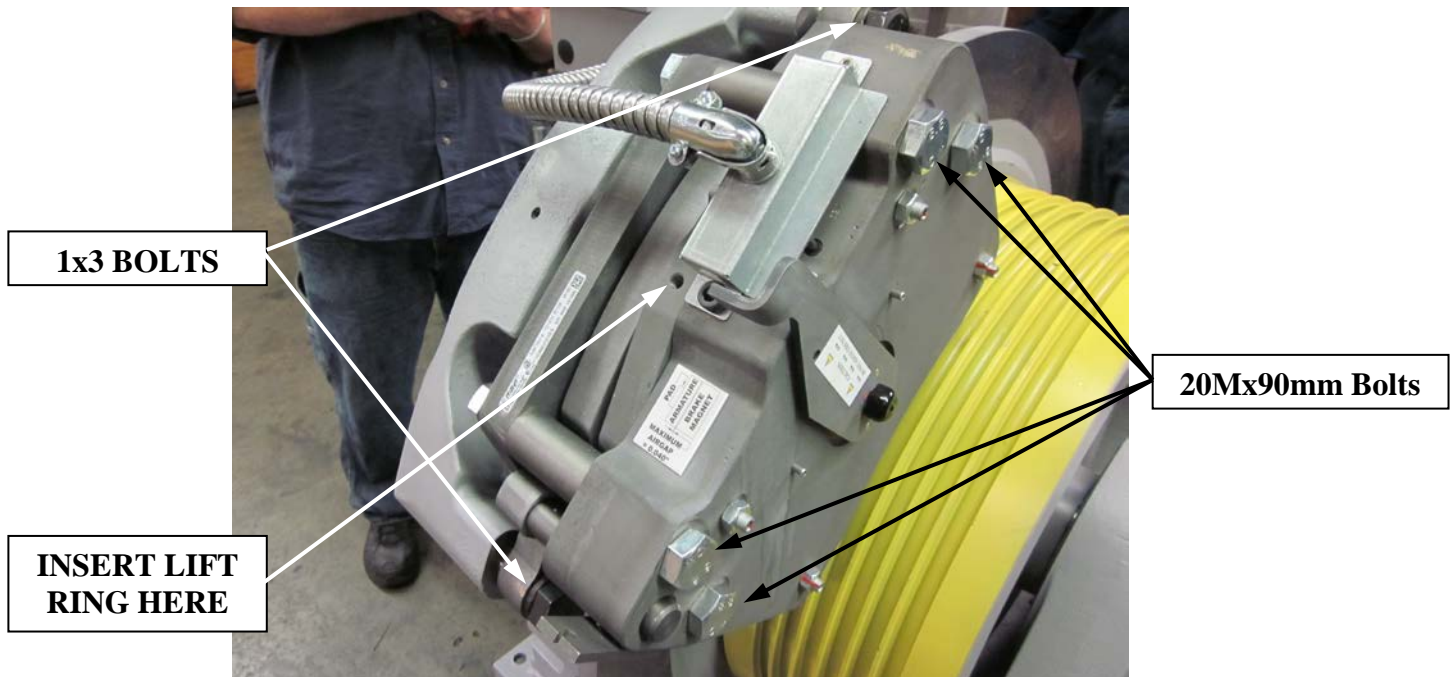

Figure 10
- Remove 1"x3" long bolts with 1-1/2" wrench (to remove RSD10 from mount). Figure 10.
- **USE CAUTION** when removing brake from mount, it weighs 168 lbs. Use of 10mm lift ring and hoist is suggested. Refer to figure 10.